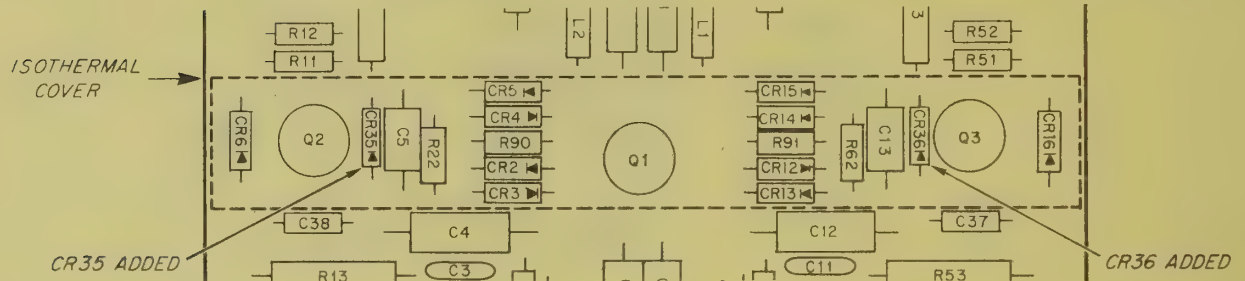

Figure US-11. Adding CR35 and CR36 to Preamplifier Assembly A2 Schematic
- 19 Page 5-6: Delete CR7, CR8, CR17, and CR18, and add CR35 and CR36 as shown in Figure US-11.